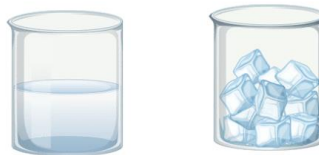

Fig. 2.24 Container having hot water and ice cubes
Step 1 – Fill one container with hot water and the other with ice cubes as shown in Figure 2.24.